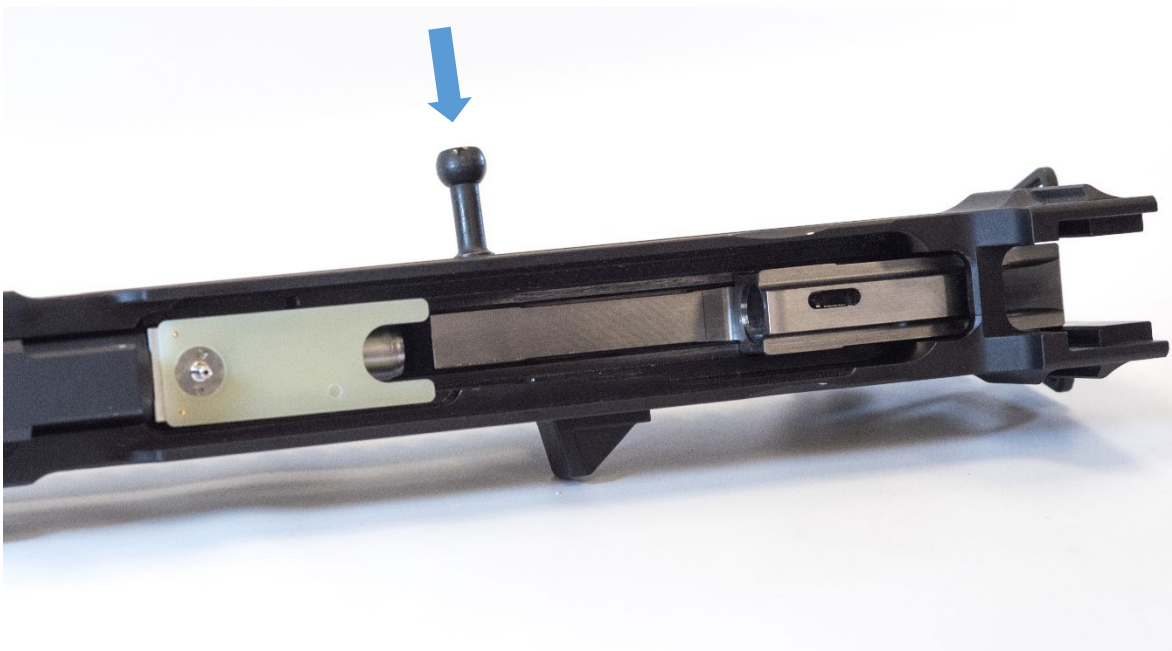

Figure 10: Bolt Carrier and Charging Handle Install
- Slide the bolt carrier assembly into the firearm to the point that allows the charging handle to be inserted. Insert the charging handle on desired side of the BCG and slide fully forward over charge chamber assembly (Figure 10).